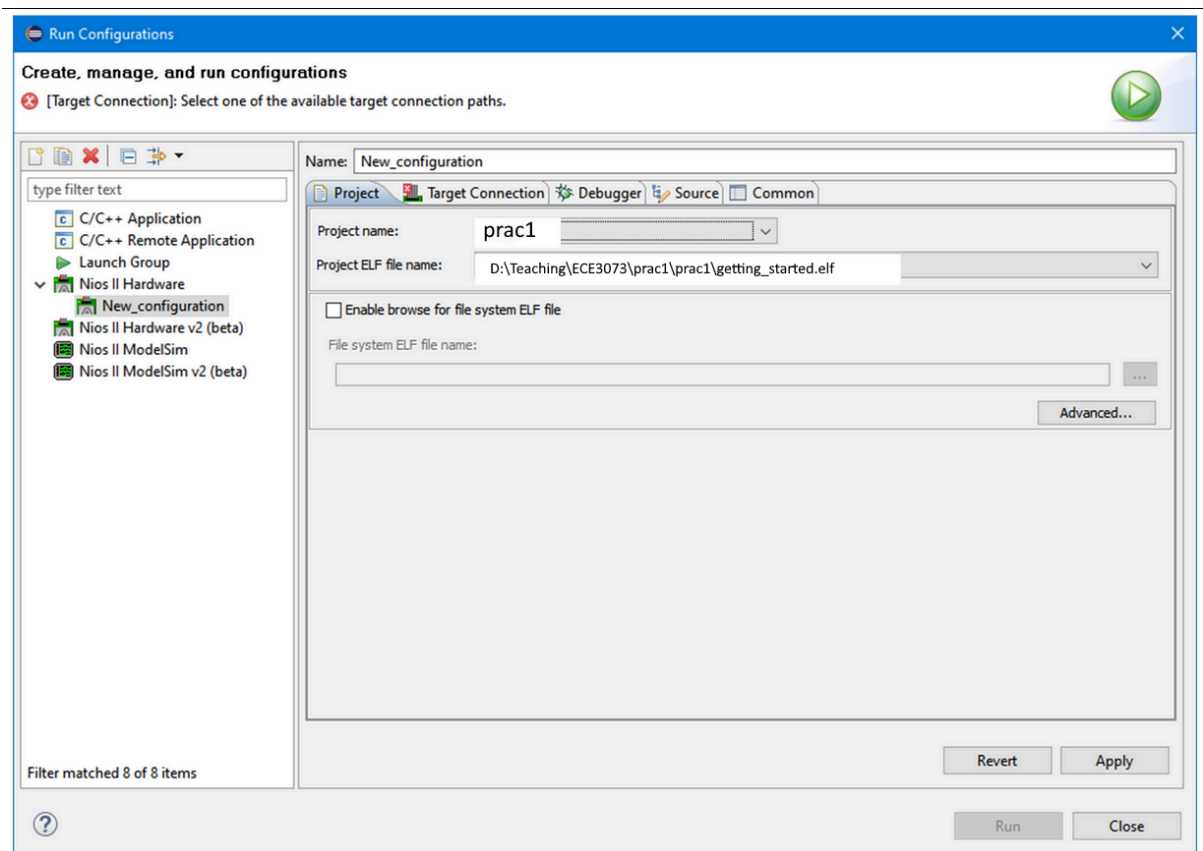

Figure 3: Run configurations
7. Download the compiled file to the board by selecting “Run > Run Configurations”. Double-click Nios II Hardware. See Figure 3 as an example of what you will see.